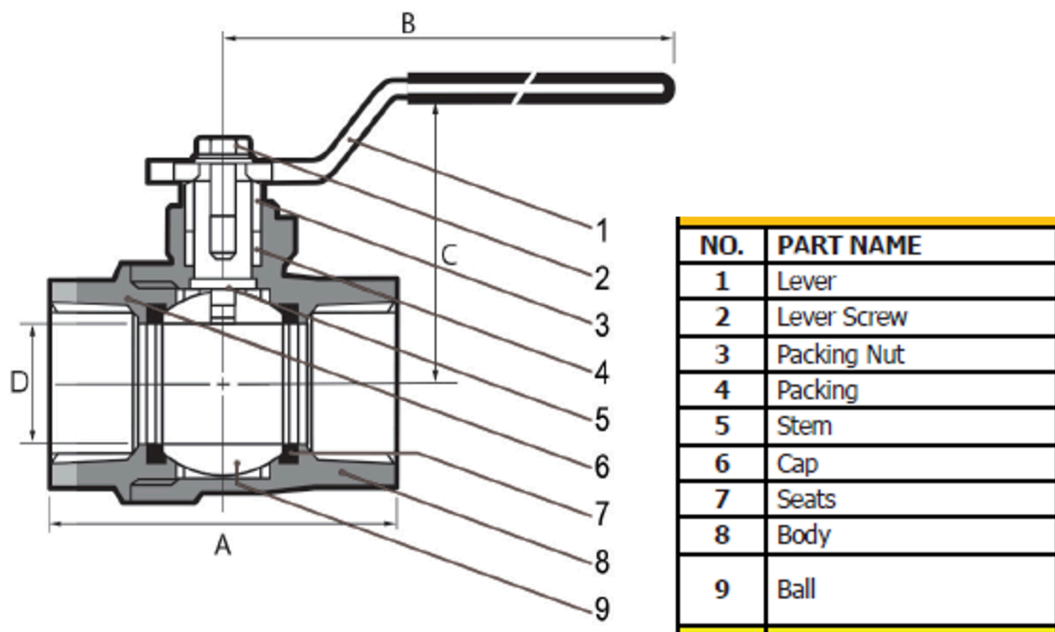

Figure 2. Cross section of lever operated ball valve [Image Description] (#b1fig2_desc)
The lever operated non-lubricated ball valve is the most common valve used for appliance shut-off. For residential and commercial applications, they are usually constructed of a brass (BRS) body with a chrome plated brass ball. Teflon seats and packing are most common but smaller sizes may use O-rings (Figure 2).
- Figure 2. “Cross section of lever operated ball valve” – The source for this image is unknown. It is being used for non-commercial, educational purposes. To receive credit for this image, please reach out to the publisher.
Figure 2. “Cross section of elver operated ball valve” image description: A labelled diagram of a cross section of a lever-operated ball valve. It labels parts from 1 to 9 and distances from A to D.
- D. Height of valve opening [*Return to Figure 2*] (#b1fig2)